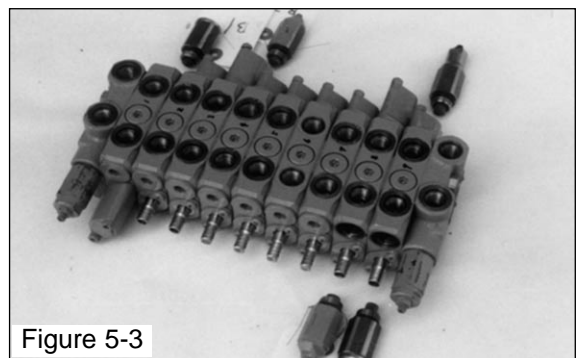

Figure 5-3
3. Remove accessory valves (overload relief, combination relief and anti-cavitation valves). See Figure 5-3.